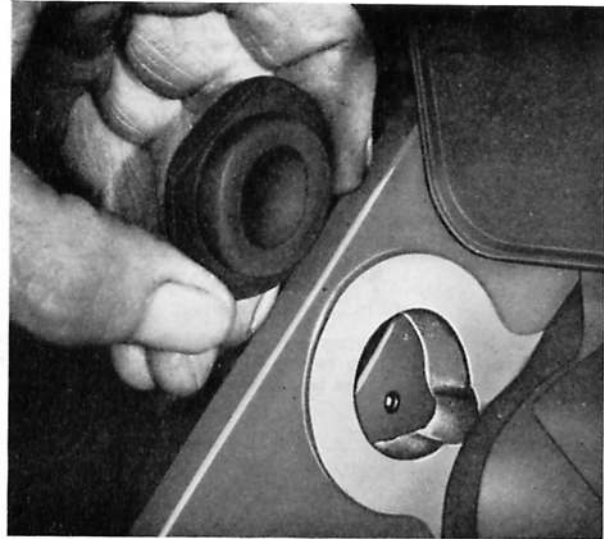

Fig. A.21. The timing aperture plug removed showing steel timing ball in line with the aperture notch
2. Turn the engine with the starting handle until the steel ball in the flywheel is aligned with the centre of the notch in the timing aperture (Fig. A.21) with the distributor rotor corresponding with No. 1 cylinder segment.
1. Prior to installing the oil pump, check that the steel ball in the flywheel is aligned with the centre of the timing aperture notch (see Fig. A.21 on page A-19) with No. 1 piston on compression stroke.